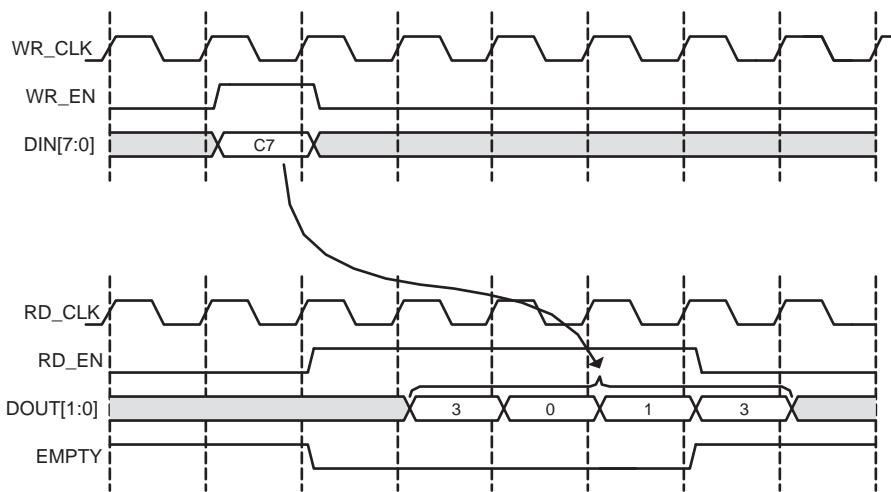

Figure 4-20: 4:1 Aspect Ratio: Status Flag Behavior
**Figure 4-20** shows DIN, DOUT, and the handshaking signals for a FIFO with an aspect ratio of 4:1. After a single write, the FIFO deasserts EMPTY. Because no other writes occur, the FIFO reasserts empty after four reads.